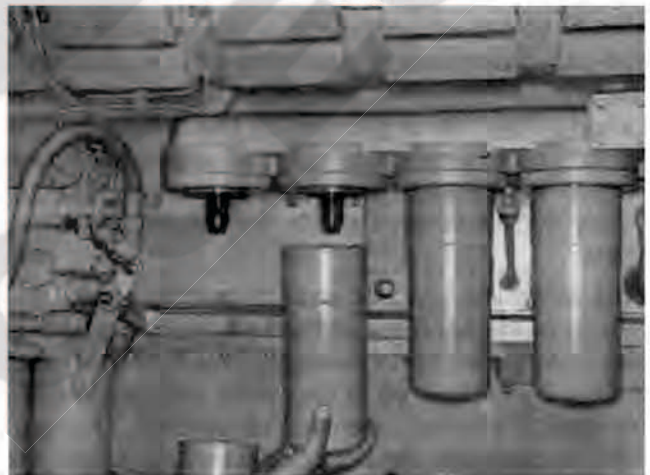

Fig.2-14. Installing "spin-on" lubricating oil filter-KT/KTA38 Engine
3. Position element to the filter head, Fig. 2-14. Tighten by hand until the seal touches the filter head, tighten an additional one-half to three-fourths turn.